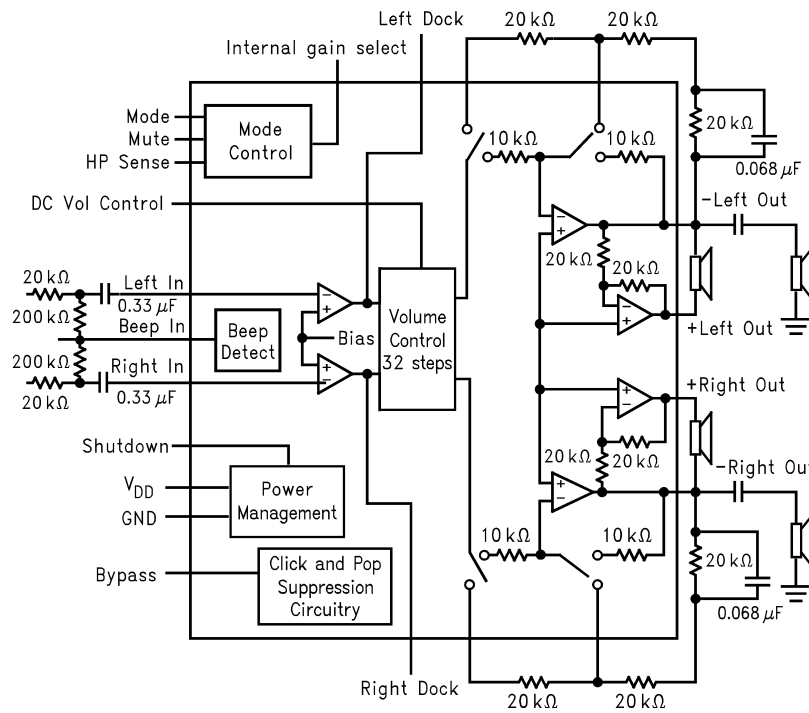

Figure 1. LM4838 Block Diagram
- (1) All voltages are measured with respect to the ground pins, unless otherwise specified. All specifications are tested using the typical application as shown in Figure 1.
- (2) *Absolute Maximum Ratings* indicate limits beyond which damage to the device may occur. *Operating Ratings* indicate conditions for which the device is functional, but do not guarantee specific performance limits. *Electrical Characteristics* state DC and AC electrical specifications under particular test conditions which guarantee specific performance limits. This assumes that the device is within the Operating Ratings. Specifications are not guaranteed for parameters where no limit is given, however, the typical value is a good indication of device performance.
- (3) Typicals are measured at $25^\circ C$ and represent the parametric norm.
- (4) Limits are guaranteed to TI's AOQL (Average Outgoing Quality Level). Datasheet min/max specification limits are guaranteed by design, test, or statistical analysis.